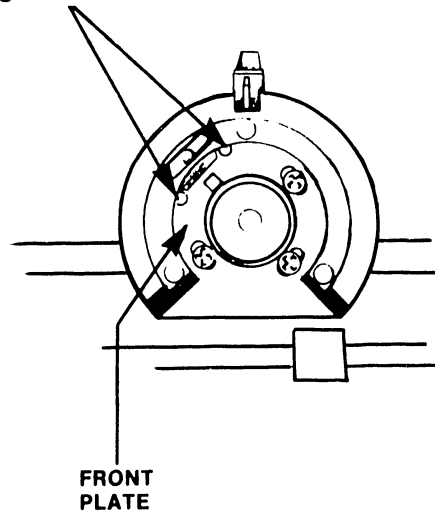

FIGURE 5-12 HOME POSITION ADJUSTMENTS
4. Loosen 2 mounting nuts (see Figure 5-12).